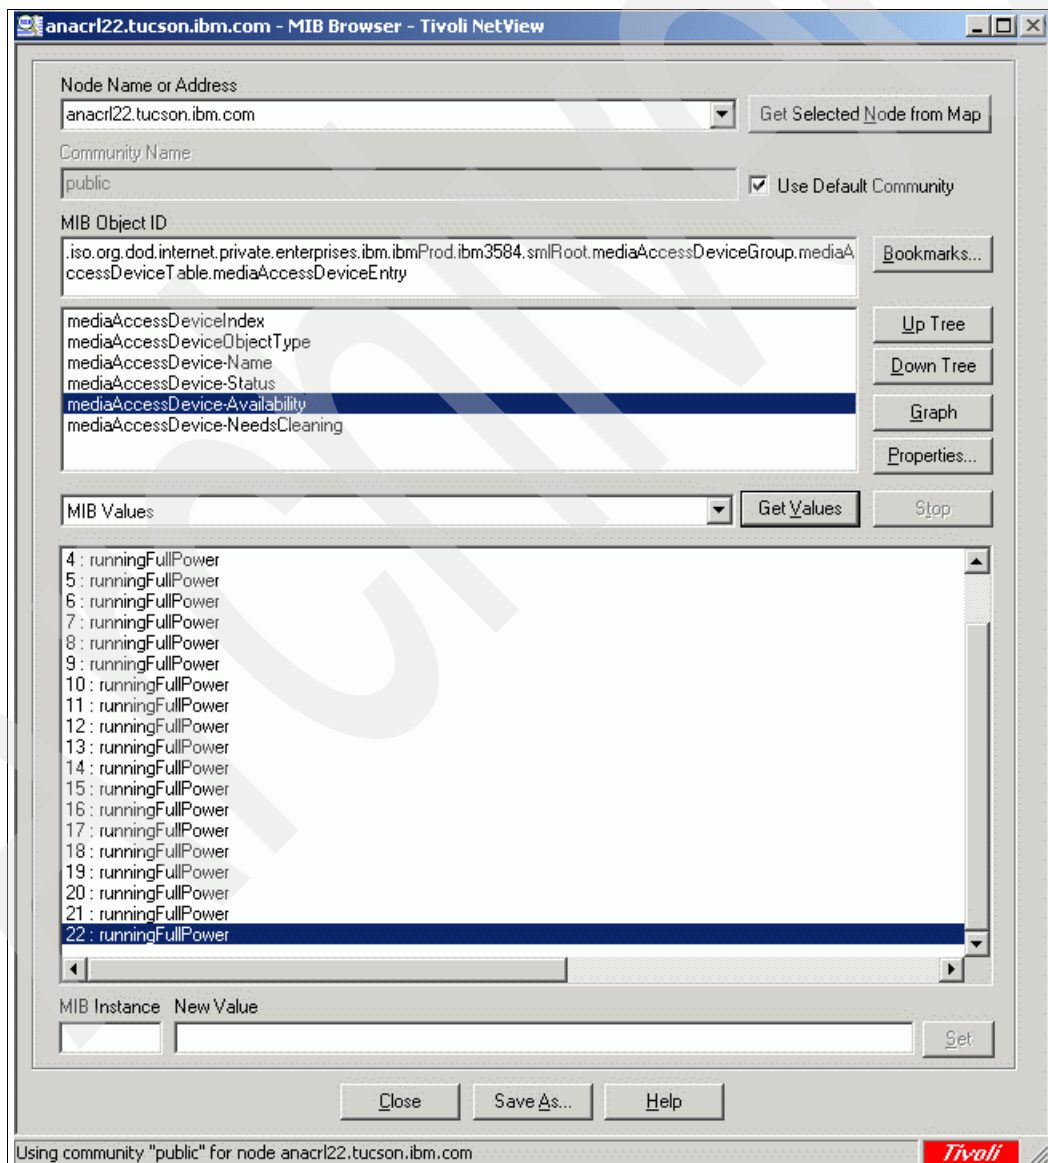

Figure A-22 SNMP Request: Drive status
- ▶ For a list showing the status of all of the drives in the library ordered by element address, issue an SNMP get request on the objects `mediaAccessDevice-Availability.1` through `mediaAccessDevice-Availability.n` where *n* is the number returned by `numberOfMediaAccessDevices.0` (see Figure A-22).